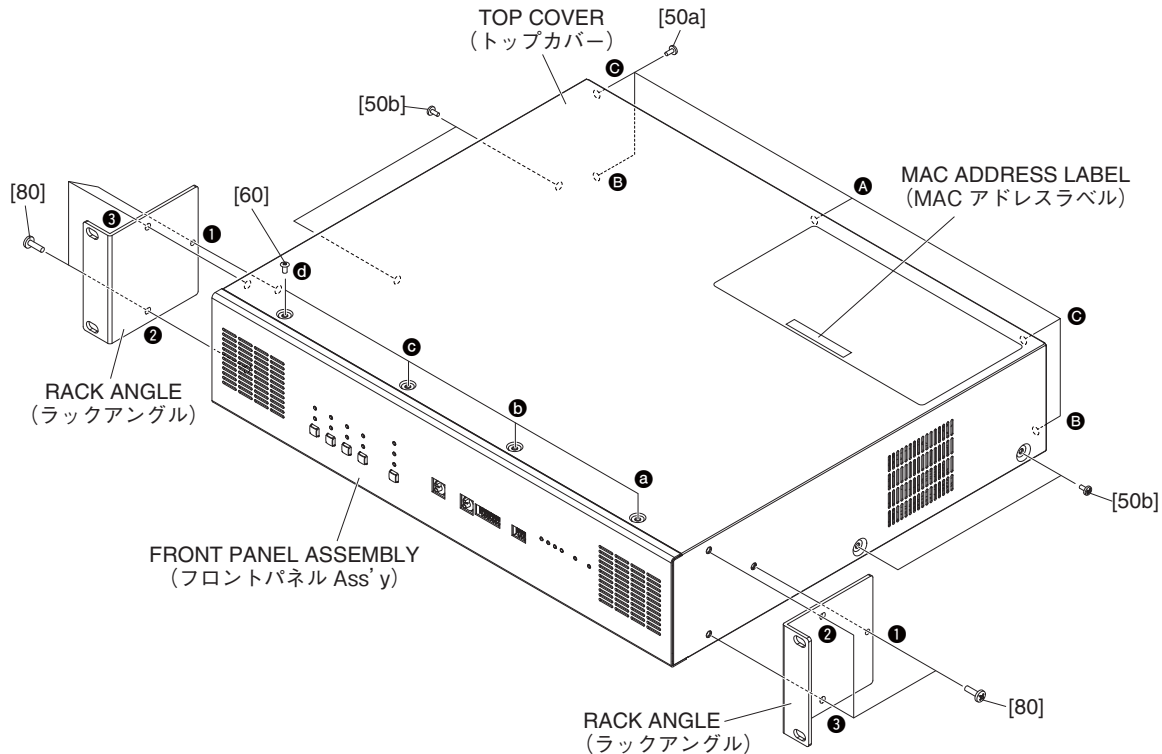
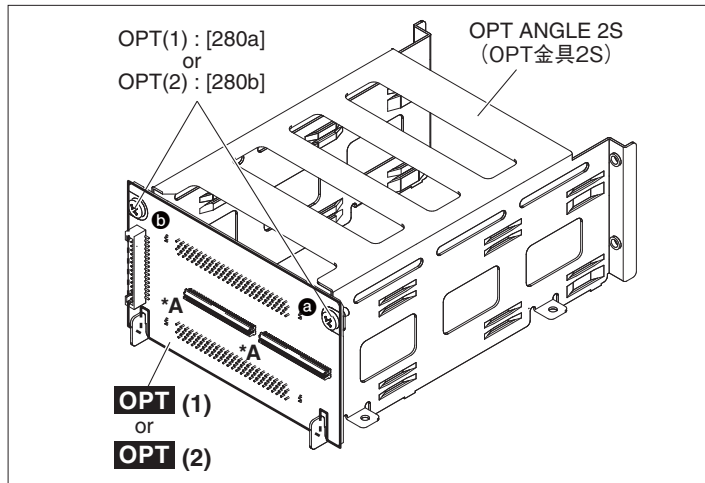
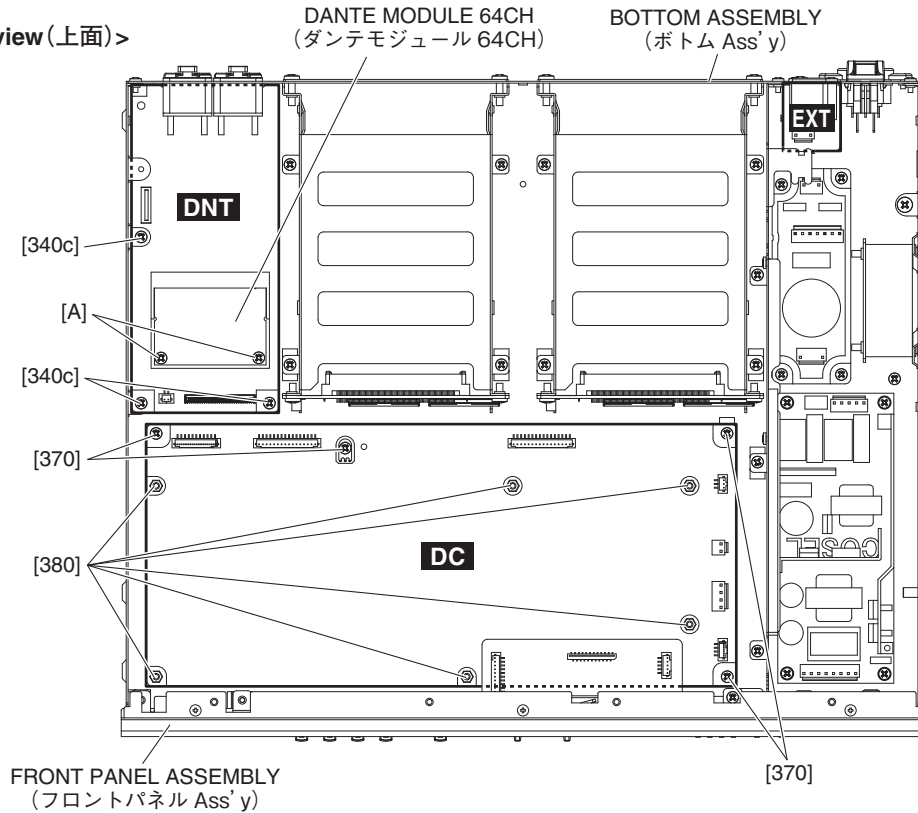

Fig. 1 (図1)
Fig. 2 (図2)
Fig. 3 (図3)
- The MAC address changes when the DM circuit board is replaced. When the DM circuit board (ZR183000: DM circuit board CS) is replaced, replace the MAC address label affixed to the top cover of the product with the MAC address label that comes with the DM circuit board. (Fig. 1)
- DM シートを交換すると、MAC アドレスが変更されます。DM シート (ZR183000: DM シート CS) を交換した時は、製品のトップカバーに貼ってある MAC アドレスラベルを DM シートに付属されている、MAC アドレスラベルに貼りかえてください。(図 1)
- 1-1 Remove the six (6) screws marked [80]. The left and right rack angles can then be removed. (Fig. 1)
- * **When installing the rack angles, tighten the screws marked [80] in the order ① to ③ shown in Fig. 1.**
- 1-2 Remove the five (5) screws marked [50a], the four (4) screws marked [50b] and the four (4) screws marked [60]. The top cover can then be removed. (Fig. 1)
In each case, tighten the screws in the order shown in Fig. 1.
- 2-2 Remove the six (6) screws marked [470]. The DM circuit board can then be removed. (Fig. 2)
- 3-3 Remove the four (4) screws marked [370] and the six (6) hexagonal spacers marked [380]. The DC circuit board can then be removed. (Fig. 3)
4. OPT(1) Circuit Board, OPT(2) Circuit Board
- 4-2 **OPT(1) circuit board: (Time required: About 5 minutes)**
- 4-2-1 Remove the four (4) screws marked [100a]. The two (2) IF plates can then be removed. (Fig. 2)
- 4-2-2 Remove the four (4) screws marked [290a]. The OPT angle 2S can then be removed. (Fig. 2)
- 4-2-3 Remove the two (2) screws marked [280a]. The OPT(1) circuit board can then be removed. (Fig. 2)
- * **When installing the OPT(1) circuit board, tighten the screws marked [280a] in the order ① to ② shown in Fig. 2.**
- 4-3 **OPT(2) circuit board: (Time required: About 5 minutes)**
- 4-3-1 Remove the four (4) screws marked [100b]. The two (2) IF plates can then be removed. (Fig. 2)
- 4-3-2 Remove the four (4) screws marked [290b]. The OPT angle 2S can then be removed. (Fig. 2)
- 4-3-3 Remove the two (2) screws marked [280b]. The OPT(2) circuit board can then be removed. (Fig. 2)
- * **When installing the OPT(2) circuit board, tighten the screws marked [280b] in the order ③ to ④ shown in Fig. 2.**
- * **The OPT(1) circuit board and OPT(2) circuit board are used for the following slots.**
- OPT(1) circuit board: SLOT1, SLOT3
- OPT(2) circuit board: SLOT2, SLOT4
- 1-1 [80] のネジ 6 本を外して、左右のラックアングルを外します。(図 1)
- ※ ラックアングルを取り付ける際は、図 1 に示す ① ~ ③ の順に [80] のネジを締めてください。
- 1-2 [50a] のネジ 5 本と [50b] のネジ 4 本、[60] のネジ 4 本を外して、トップカバーを外します。(図 1)
各ネジはそれぞれ、図 1 に示す順にネジを締めてください。
- 2-2 [470] のネジ 6 本を外して、DM シートを外します。(図 2)
- 3-3 [370] のネジ 4 本と [380] の六角スペーサー 6 本を外して、DC シートを外します。(図 3)
4. OPT(1) シート、OPT(2) シート
- 4-2 **OPT(1) シート: (所要時間: 約 5 分)**